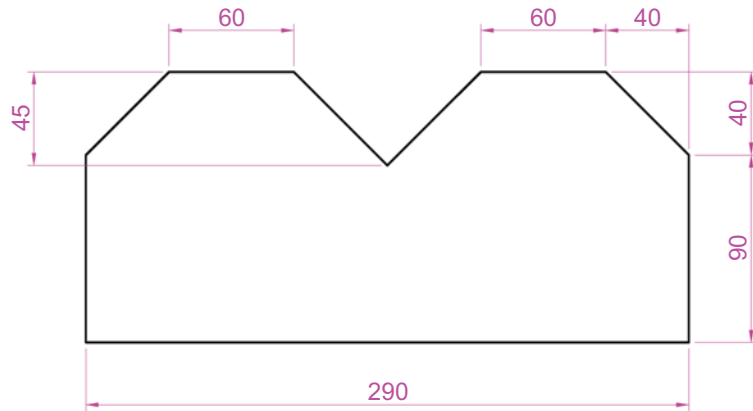

Fig. 12.15 Second example – outline for dimensions
1. Construct the outline Fig. 12.15 – a pline of width = 1.